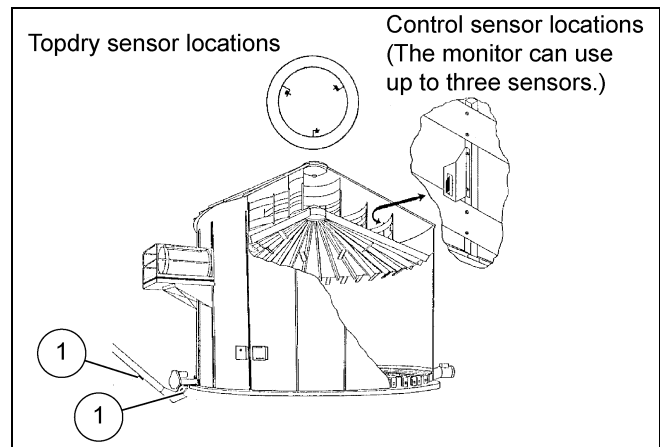

Figure 3K
3. It is possible to have up to three sensors connected to the monitor. When using more than one sensor, vary the mounting depth. **For example:** When using three sensors, they could be mounted 120° apart and at depths of 10", 12" and 14" above the drying floor. See dip switch setting on Page 28 when more than one sensor is used. (See Figure 3K.) See electrical installation on Page 19 for the required modifications.
4. On continuous units, it is important that the sensor is located in the path of moving grain which is just above the chute opening. See below Figure 3K for sensor mounting.